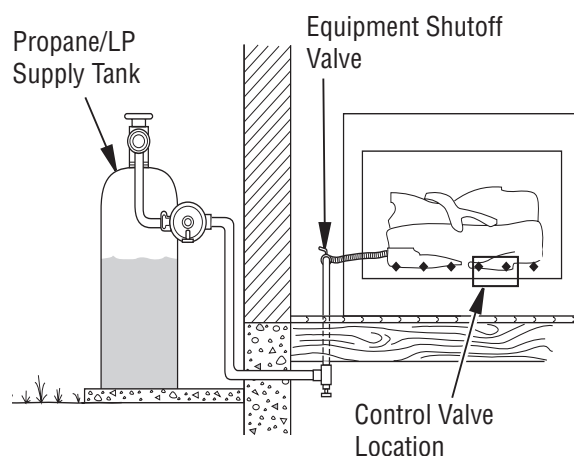

Figure 15 - Checking Gas Joints (Propane/LP Gas Only)
3. Check all joints from gas meter to equipment shutoff valve for natural gas or propane/LP supply to equipment shutoff valve for propane/LP (*see Figure 15 or 16*). Apply noncorrosive leak detection fluid to all joints. Bubbles forming show a leak.
4. Check all joints from equipment shutoff valve to gas control (*see Figure 15 or 16*). Apply noncorrosive leak detection fluid to all joints. Bubbles forming show a leak.